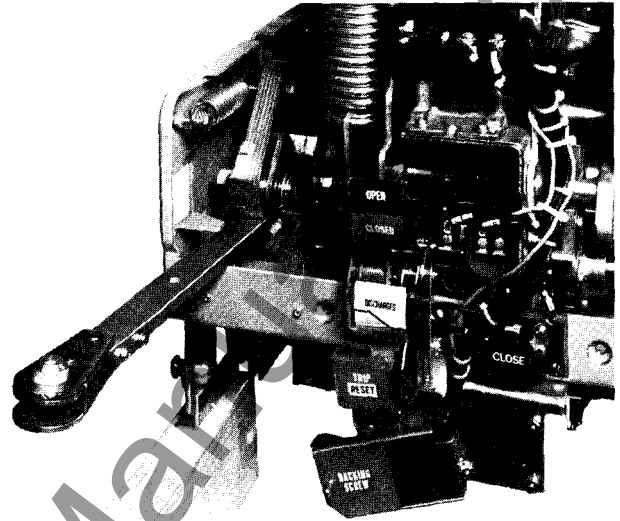

FIG. 2
4. Block the breaker from opening by using maintenance handle under the left flywheel and the top of the buffer nut. See figure 2.